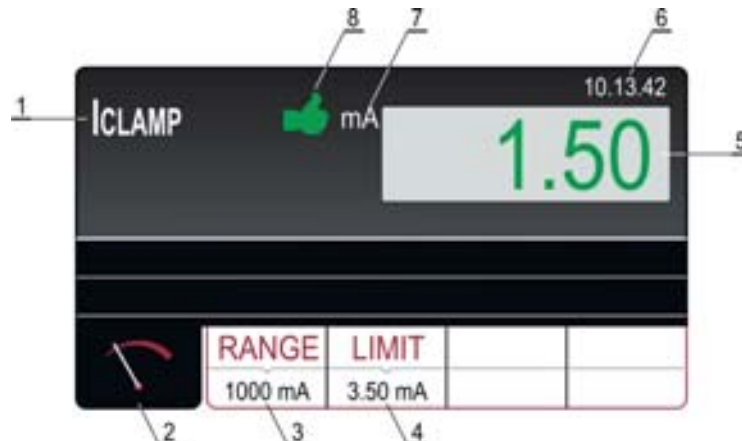

Fig. 70 : Visualization of ICLAMP test result
7. Start the measurement by pressing the **START/STOP** key. The measurement will start to run and will be stopped after pressing the **START/STOP** key again. Measurement result will be currently displayed in green color if it is lower than or equal to set limit value or in red color if it is higher than set limit value. Final result will be equipped with green symbol and with acoustic sound if it is OK or with red symbol and with longer acoustic sound if it is not OK. See the display outlook with test result in Fig. 70